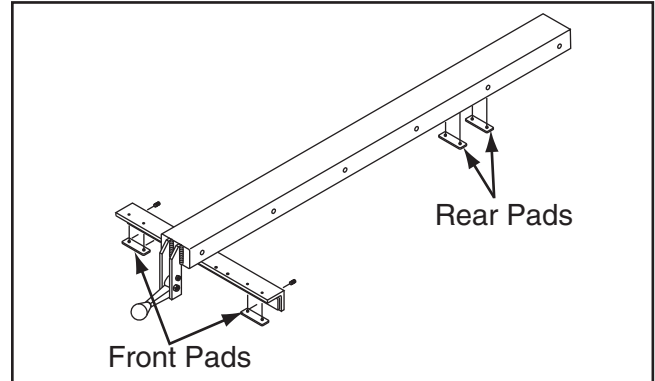

Figure 117. Fence pad locations.
3. Check fence support pads. Over time, pads illustrated in **Figure 117** will wear. Replace if they appear worn.